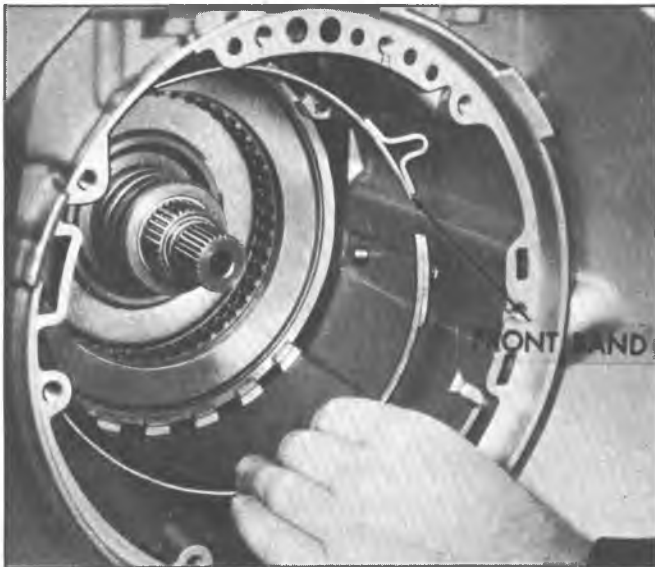

Fig. 133T--Installing Front Band
- 16. Install front band with anchor hole placed over band anchor pin and apply lug facing servo hole (fig. 133T).